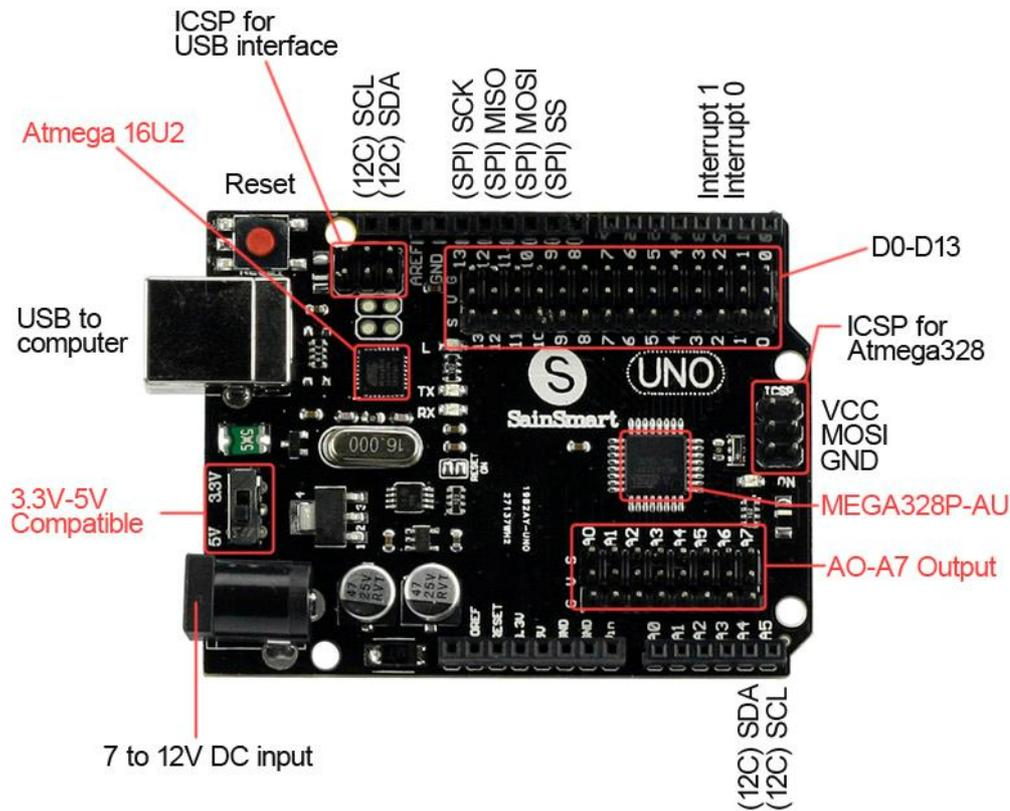

Figure 1.3 SainSmart Uno, R3.
Additionally, the SainSmart Uno R3 has extra male pins for the digital and analog I/O ports (S). Next to each of these pins is a working voltage level pin (V) and a ground pin (G). This is very helpful for certain connector types that you may want to use with your board, see Figure 1.3.